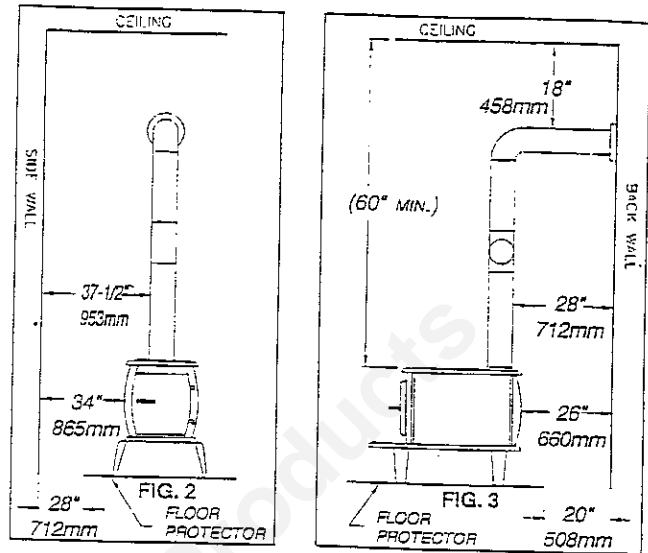

FIG. 2
3. You must have at least 18" inches clearance between any horizontal piping and the ceiling. (Fig. 2)